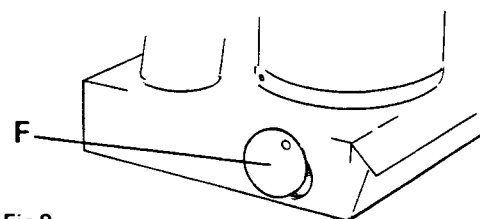

Fig.8
1. Open the lower vent at the rear of the refrigerator (on the outside of the vehicle) then turn on the gas valve (A) so that its handle is in line with the gas valve body.
2. Turn the gas thermostat knob (B) to setting No. 4.
3. Push in the plunger (C). Wait 5 seconds. Push button (D) several times in succession. A click should be heard
each time it is depressed. Continue to press in the plunger (C) for a further 15 seconds. After burner lights, release it and check that the burner is lit by looking at the flame through the opening (Figure 8 - F). If the burner has not lit, repeat the lighting procedure. The ice-tray shelf should show signs of cooling after about an hour.